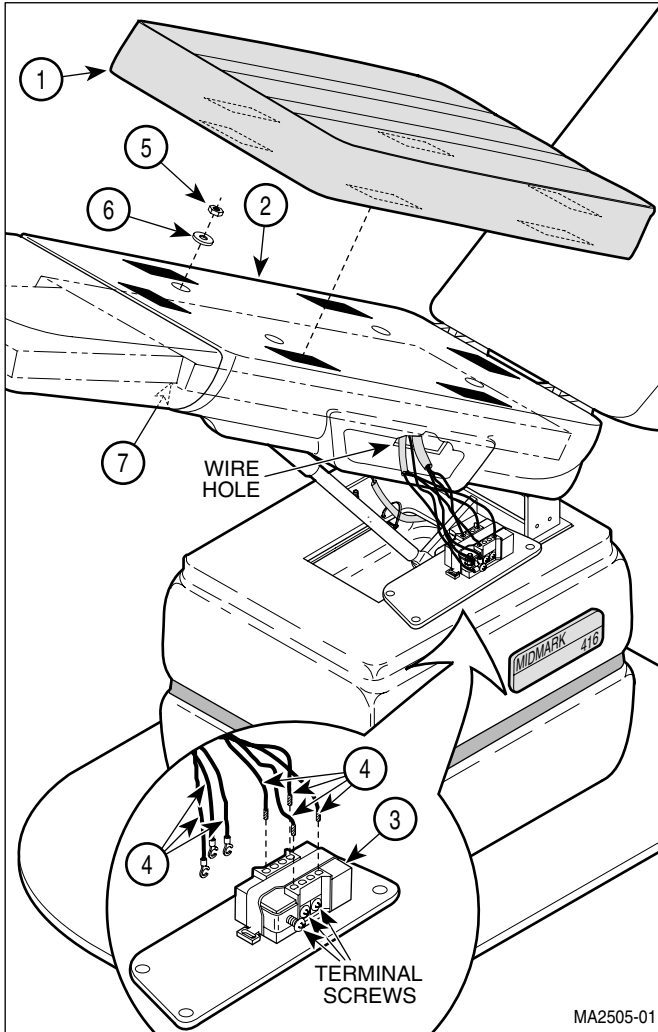

Figure 4-19. Plastic Seat Section
- (3) Remove control disable switch (Refer to para 4.5).
- (4) Remove upholstered seat section (1, Figure 4-19) from plastic seat section (2).
- (1) Install plastic seat section (2, Figure 4-19) on seat weldment (7) and secure with four washers (6) and nuts (5). Tighten nuts until firm; then tighten an additional $\frac{1}{3}$ turn.
- (2) Feed wires thru wire holes on each side of plastic seat section (2).